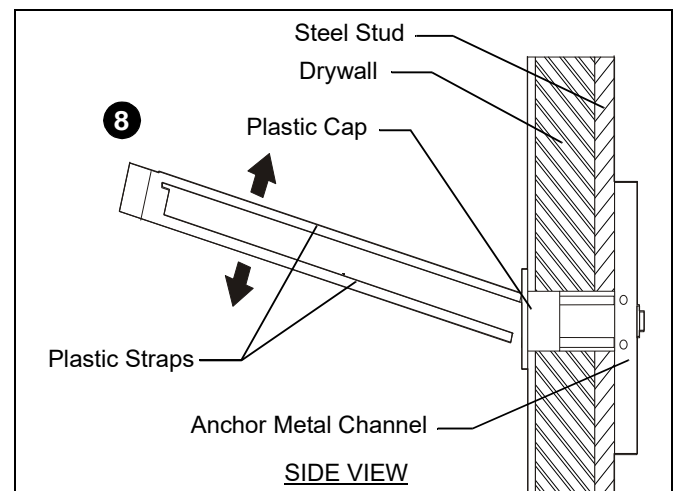

Figure 4
8. Snap off plastic straps on anchor at wall by pushing side to side, snapping off straps level with flange of plastic cap. (See Figure 4)